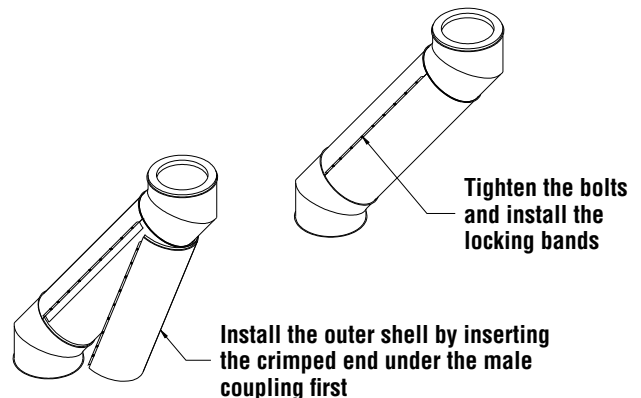

Figure 65 - Variable length, Installation step G
1. The variable length (LV) is used only to make odd lengths, it doesn't compensate thermal expansion. See **figure 65 for typical location**.